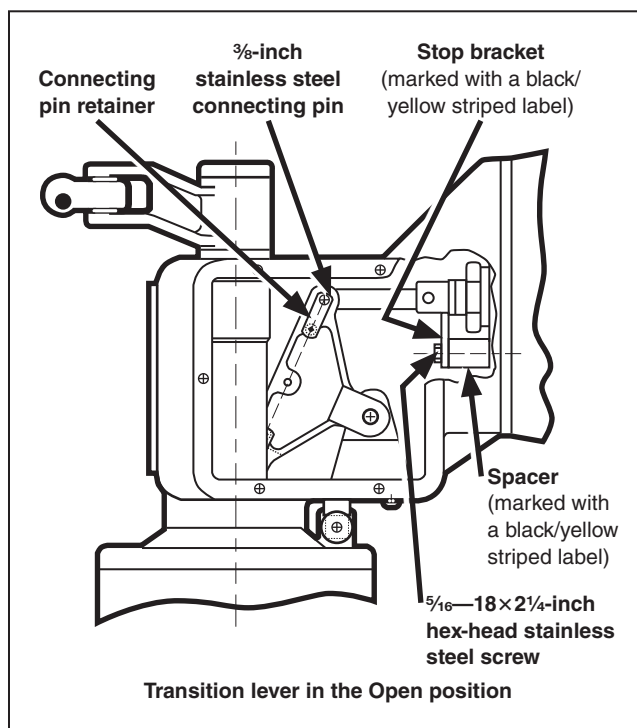

Figure 13. Preparing insulated operating rod for attachment.
- (b) Make sure the transition lever is in the **Open** position. The lever should be turned fully counterclockwise. See Figure 13. If the lever is not in the **Open** position, complete the following:
- (c) Remove the $\frac{3}{8}$ -inch stainless steel connecting pin used to attach the transition lever to the operating rod link. See Figure 13 on page 20. The pin is locked in place by a retainer; lift and turn the retainer to remove the pin. Keep the pin for re-use in Step 1(e).
- (e) Replace the $\frac{3}{8}$ -inch stainless steel connecting pin retained from Step 1(c). See Figure 13 on page 20.
Note: It will be necessary to loosen the $\frac{5}{16}$ — $18 \times 2\frac{1}{4}$ -inch hex-head stainless steel screw indicated in Figure 13 on page 20 and withdraw it approximately $\frac{1}{8}$ -inch (3 mm) so the connecting pin can be inserted. Do not remove the screw at this time.
- (f) After the connecting pin has been inserted and locked in place by its retainer, remove and discard the $\frac{5}{16}$ — $18 \times 2\frac{1}{4}$ -inch hex-head stainless steel screw and stop bracket (marked with a black/yellow striped label) illustrated in Figure 13 on page 20.
- The transition lever has been connected to the operating rod link. See Figure 13 on page 20.